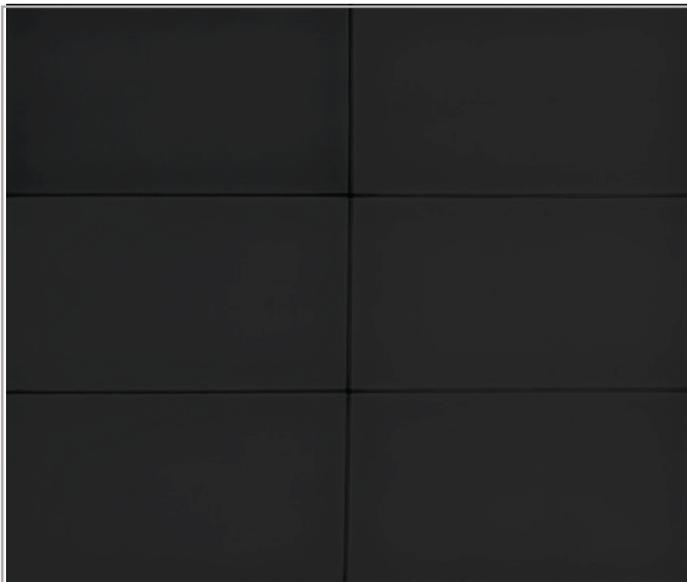

Figure 2.1
- Play the black picture in full screen, as shown in figure 2.1, and observe whether the picture has whitening or uneven the brightness.